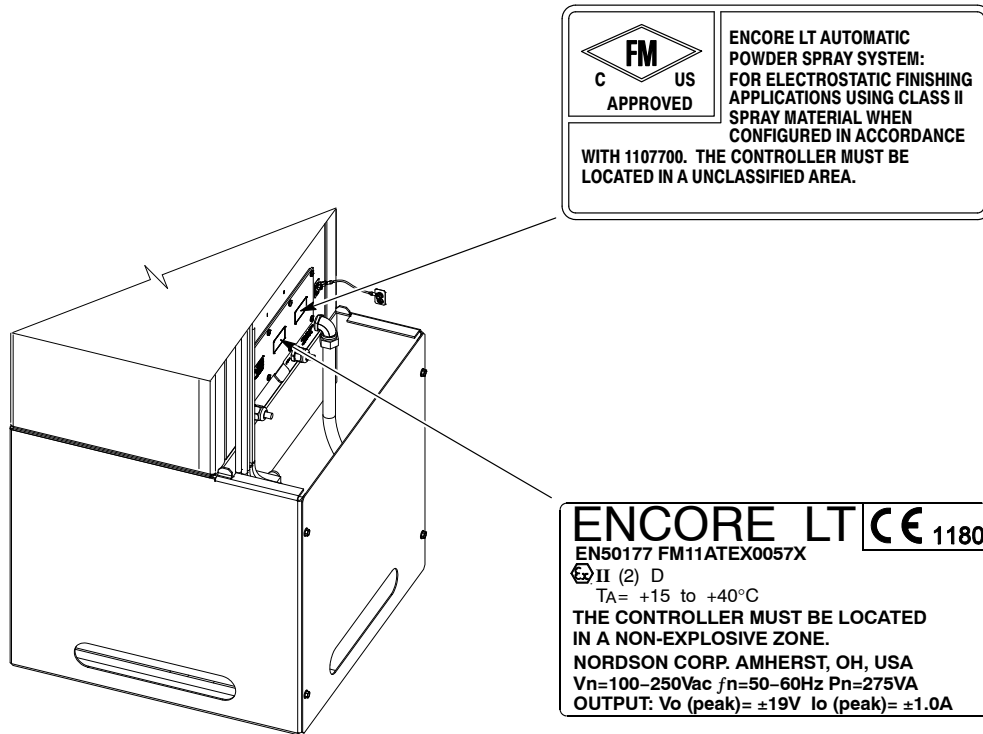

Figure 5 Approval Labels
- Remove the back panel (1) by sliding it up and away from the cabinet (19).
- Apply the Approval labels as shown in Figure 5.
- Install the back panel (1) onto the cabinet (19).